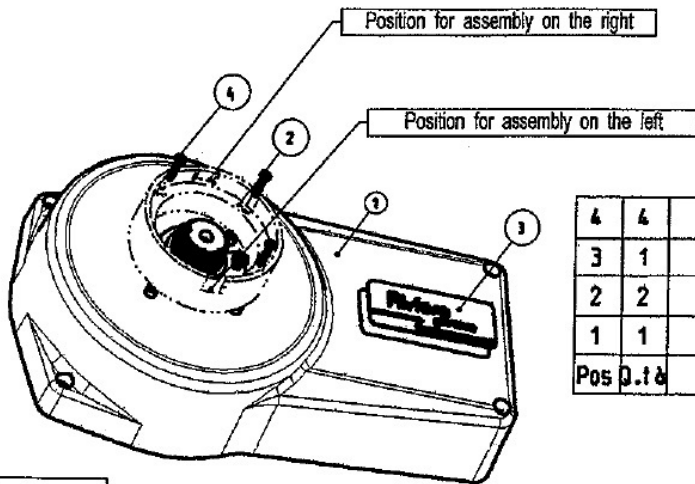

Fig. 1
1. The stop ring shall be oriented according to the single lever control position in respect of the steering place as shown in **Fig.1**.